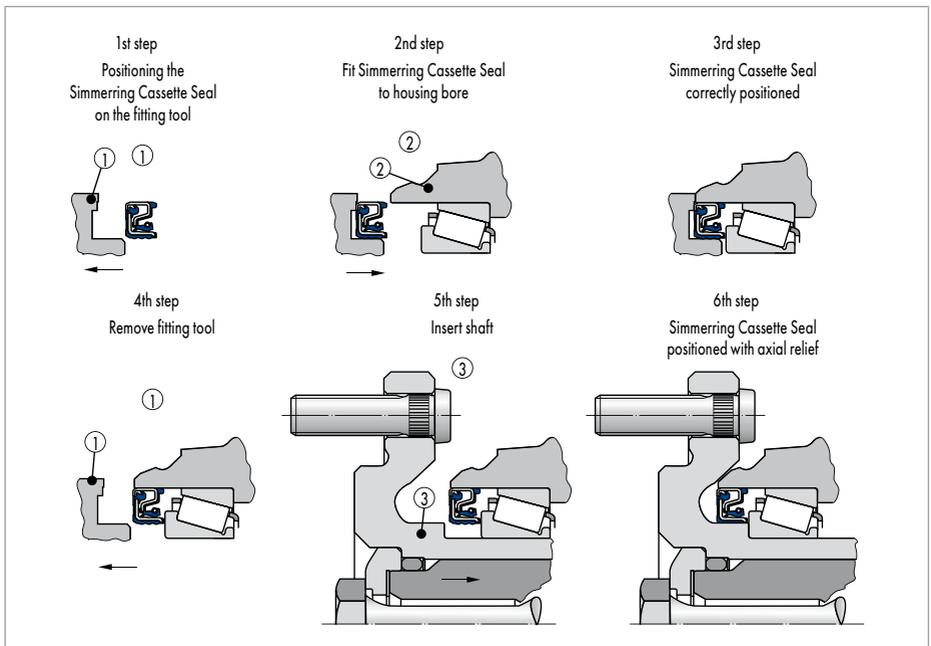

Fig. 53 Fitting of Simmerring Cassette Seal – Case A (with "bearing stop")
- Second step: Fitting of the shaft (→ Fig. 53, 54)